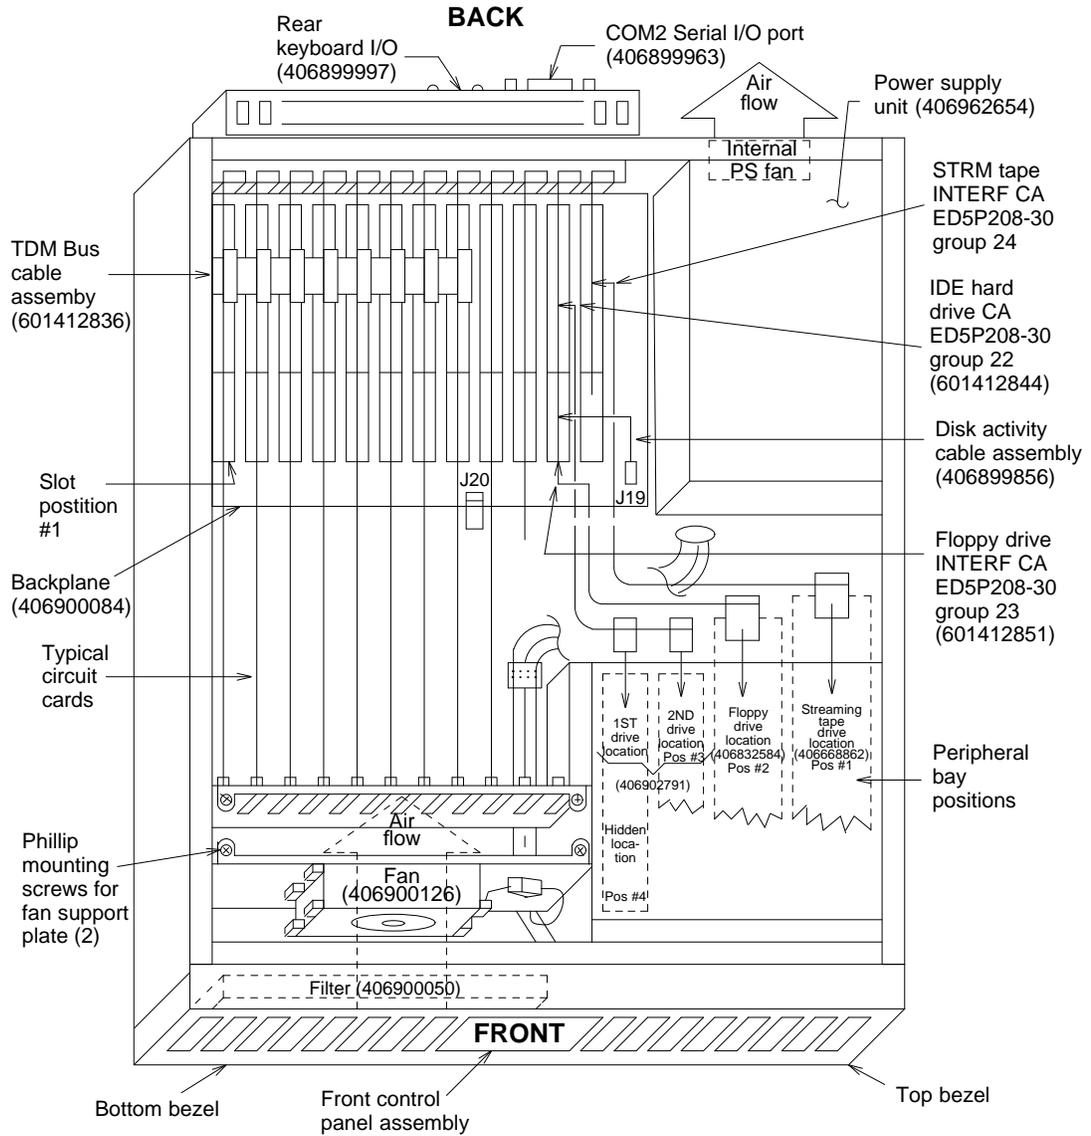

Figure B-2. MAP/40 Internal Layout
Figure B-2 shows the general hardware layout of the replaceable components within the MAP/40.
The MAP/40 contains two fans that provide forced-air cooling inside the unit. The first fan (406900126) is located in front of the card cage, behind the front cover panel. It is mounted on a support plate to force airflow through the MAP/40 chassis, across the circuit cards as illustrated in Figure B-2.
8. Remove the two Phillips head screws that hold the fan unit in position as shown in Figure B-2.
1. Before replacing the card cage fan, locate and note the air-flow/blade rotation direction indicators to ensure that the fan is properly mounted. Install the new fan to the support plate using the four Phillips head machine screws, with the exhaust air traveling through the mounting plate hole towards the card cage area, as shown in Figure B-2.
The MAP/40 can contain up to 12 circuit cards that provide various functions for the system. These cards include video controls, peripheral controls, communication controls, CPU, and analog Tip/Ring, located in the circuit card cage in backplane slot positions 1 through 12, as shown in Figure B-2.